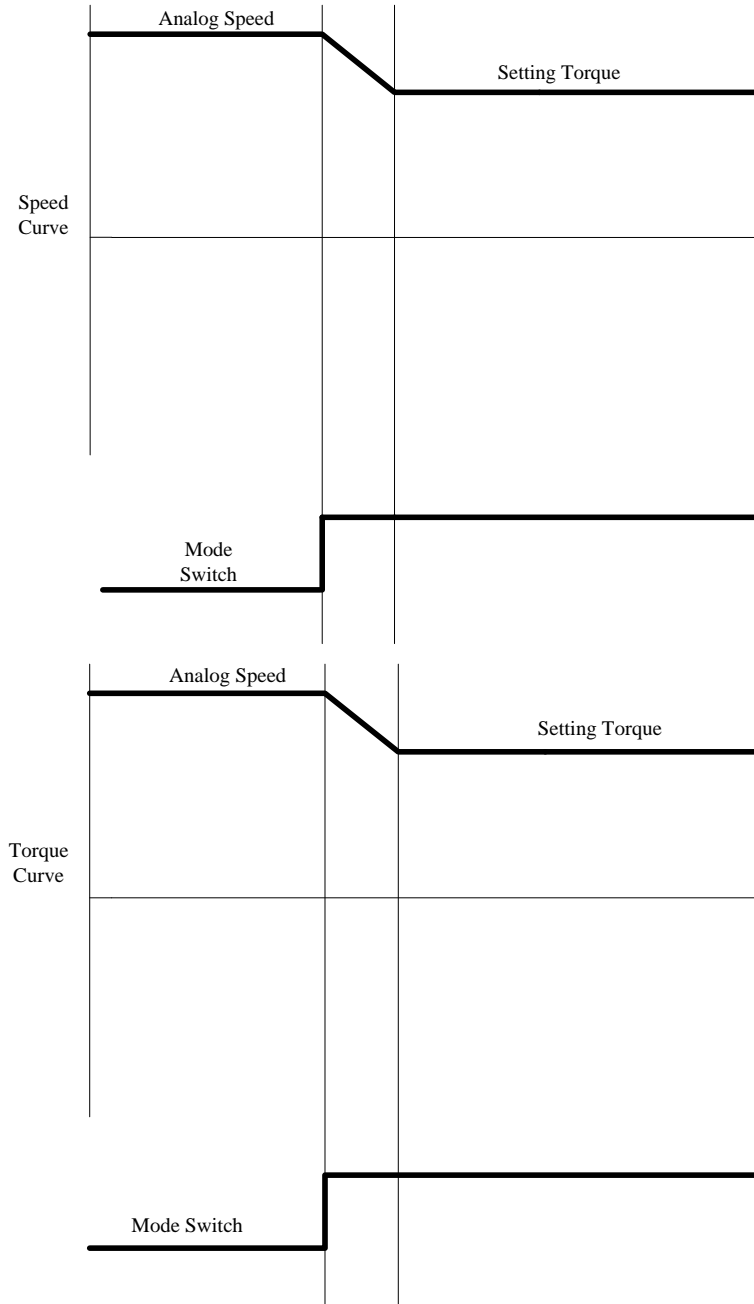

Fig 6.5.10 Speed mode and torque mode switching sequenc diagram
(2) External analog speed and internal register torque switching mode, external analog speed and torque switching mode show as figure 6.5.10, after servo is enabled, servo runs as torque mode when mode switching signal is enabled; Servo runs as speed mode when mode switching signal is disabled.